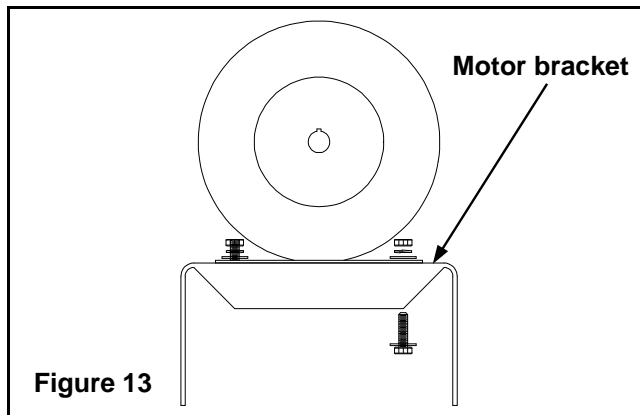
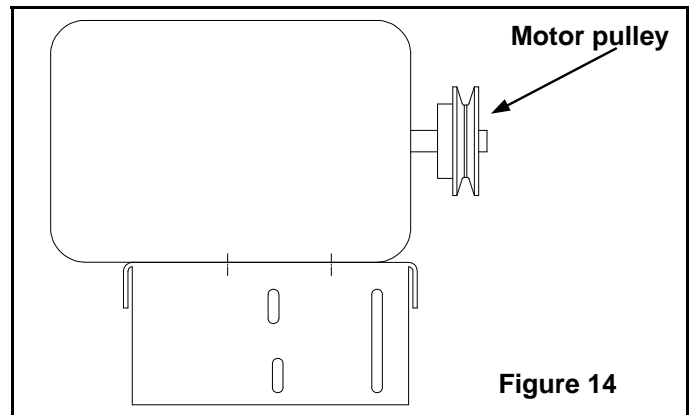
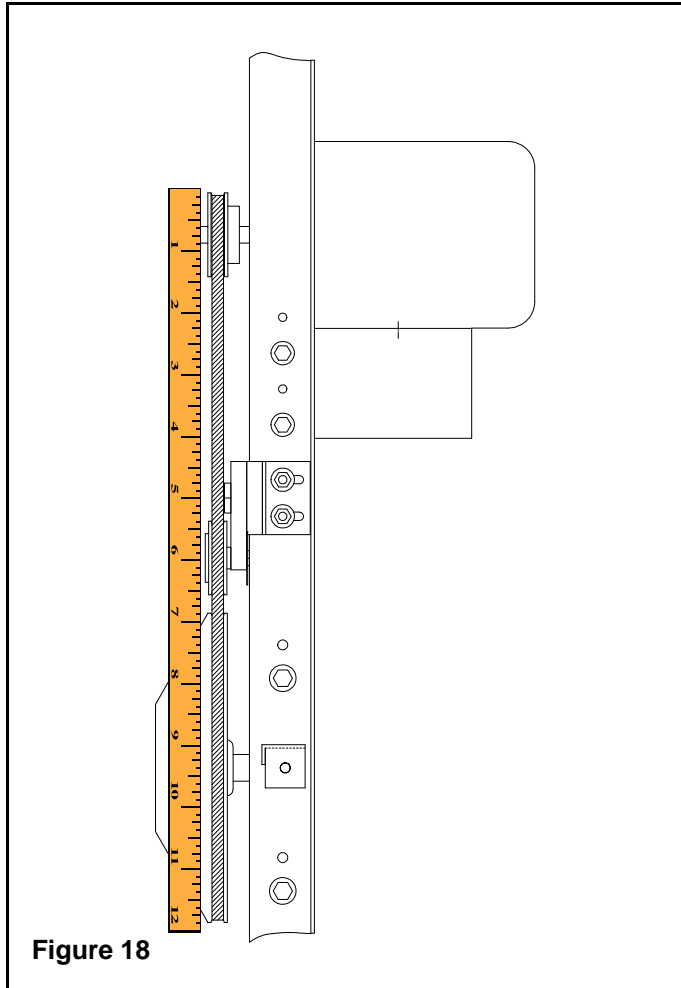

Figure 13
Figure 14
Figure 18
The next step is to mount the motor to the motor bracket with four (4) 5/16" x 1" hex bolts, eight (8) flat washers, four (4) lock washers and four (4) hex nuts. See Figure 13. Slide the motor pulley on the motor shaft with the set screw(s) towards the motor, and insert the key. See Figure 14. Do not tighten the set screw until motor pulley is checked for proper alignment. See Figure 18.
Spin the blade assembly by hand. Make sure that the blade assembly rotates freely and did not shift during shipment. If the blades rub in the fan housing on either side, it will be necessary to loosen the two (2) 3/8" bolts that secure the blade assembly's hexagonal shaft to the fan x-braces, center the blade assembly, and tighten the bolts to 25-30 ft-lbs torque. If the blades rub in the fan housing at the top or bottom, it will be necessary to loosen the four (4) 3/8" bolts that secure the fan x-braces to the fan uprights, center the blade assembly, and tighten the bolts to 25-30 ft-lbs torque. See parts lists on pages 12 and 13 for fan parts description. Next, the fan drive assembly should be checked for alignment. The fan drive assembly must be aligned for proper fan performance and to minimize pulley and belt wear. Before wiring and operating the fan, check that the drive pulley, driven disc and auto belt tensioner are aligned by using a straight edge such as a scale or yard stick. After making sure drive is aligned, tighten the motor pulley set screw(s). See Figure 18.